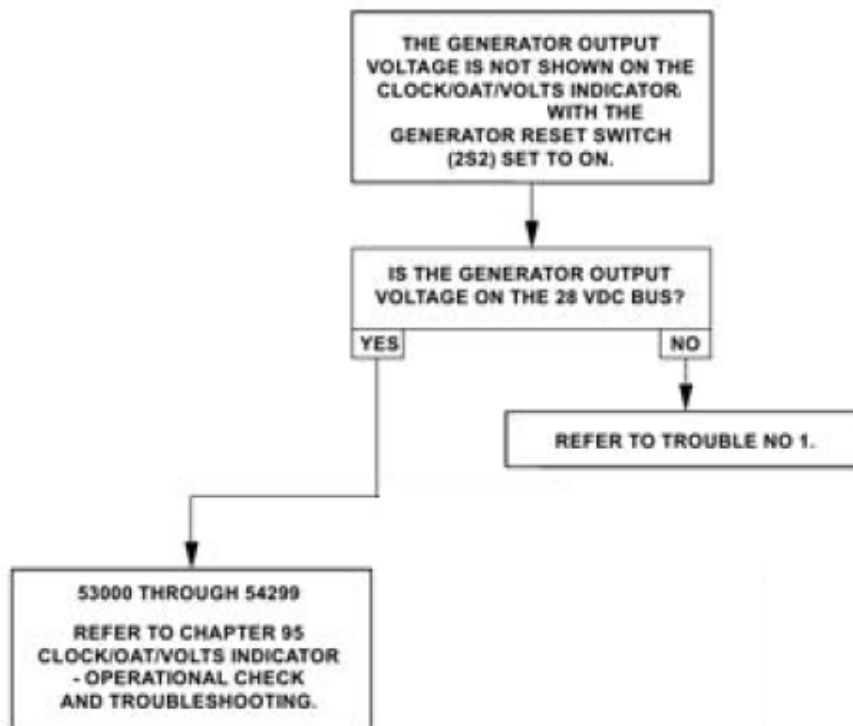

Figure 96-36: Generator System - Trouble No. 2
- If the generator output voltage is not displayed on the clock/OAT/volts indicator, refer to Trouble No. 2 (Figure 96-36).